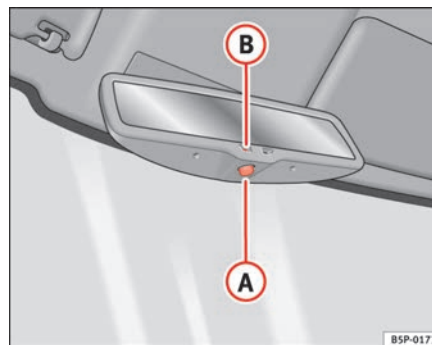

Fig. 64 Automatic anti-dazzle interior mirror.
- Press button **A** ⇒ fig. 64. Warning lamp **B** goes out: ►
- Press button **A** ⇒ page 100, fig. 64. Warning lamp is lit.